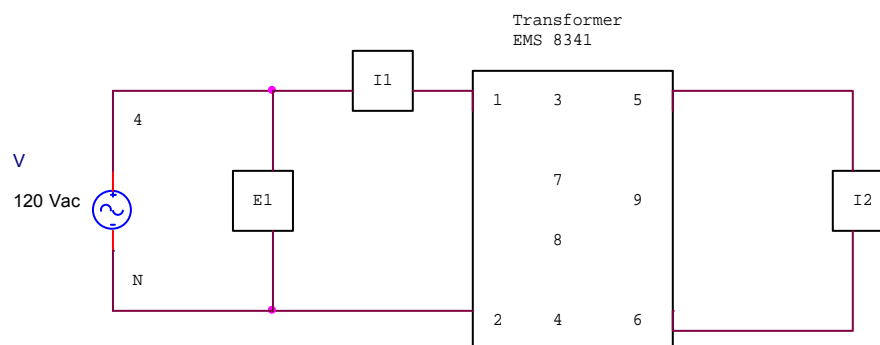

Figure 4 Single Phase Transformer Circuit for part three (short circuit test).
13. Construct the circuit of Figure 4. Note that I_2 shorts the secondary windings 5-6. Turn on the power and slowly adjust the voltage control to obtain a secondary current of 0.4 A. DO NOT EXCEED THE SECONDARY WINDING CURRENT RATING. Record the values of primary voltage, primary current, input power P_1 and secondary current through windings 5-6. Turn the voltage control knob CCW, and turn off the main power supply.